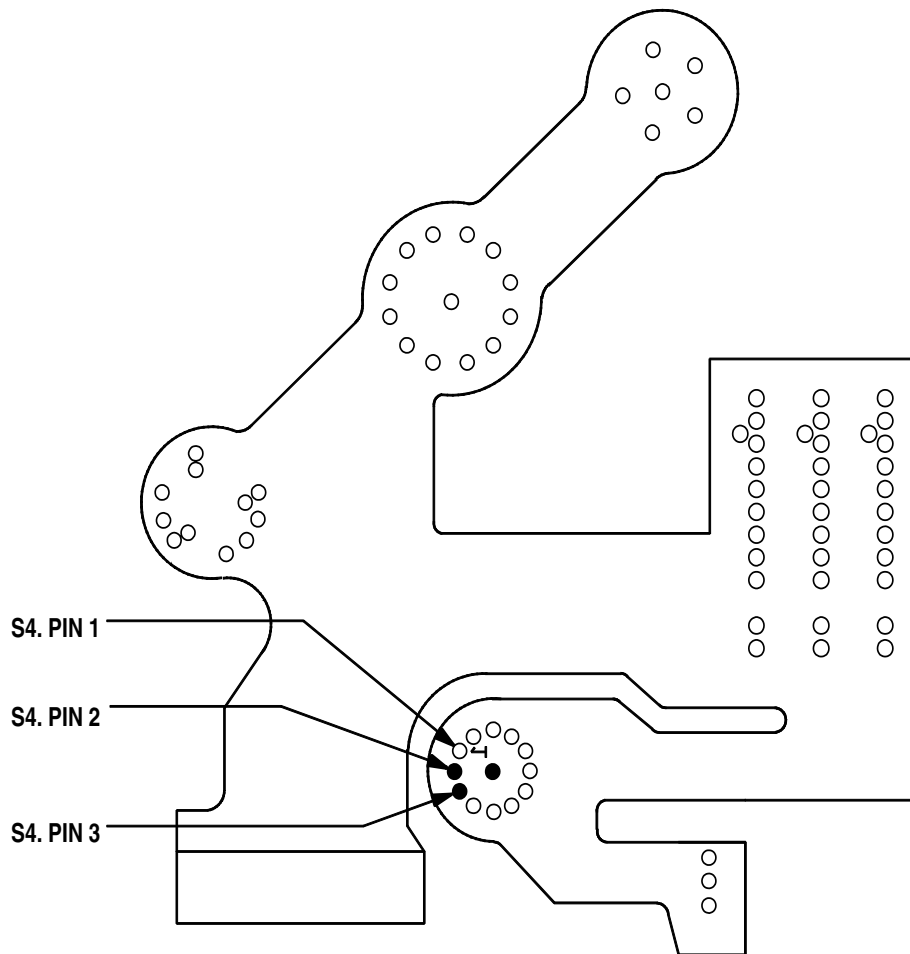

Figure 1. Rear View of Good Flexible-Switch Assembly (1A17A1W2)
- a. Place flex-switch assembly as shown in figure 1.
- b. Check rotary switch S4 for pin placement and soldered pins. Pins 2, 3 and center should be soldered with pin 1 located as indicated in Figure 1. If this is correct then the flex-switch assembly is good.